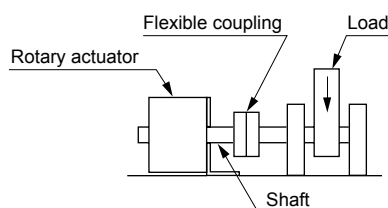

Fig. 2 Radial load
When unavoidable, use a mechanism transmitting only rotation as shown in Fig. 2.
(2) Second, remove the seal washer cap (2) by hand to reach the state shown in Fig. 2.